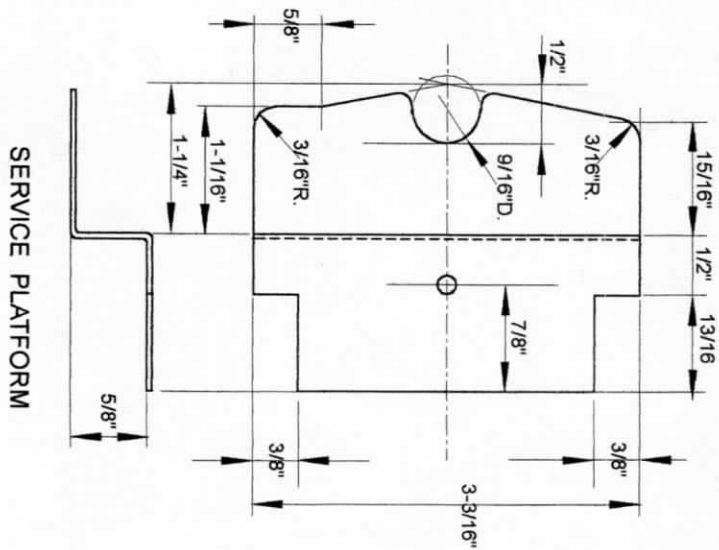

FIGURE 4
STEP 10: Make the service platform. The service platform will give the Engine & Tender a finished, close-coupled appearance when the two are connected for a run. When made to the exact configuration shown, and fastened to the tender floor (see **Figure 2**) the front contour will clear the gas tank, and the head of the screw holding the draw bar loop, and will allow for a 4 foot radius track turn. See **Figure 4** for dimensions and bending profile. Cut a piece of 0.015" brass sheet 3-3/16" wide x 2-15/16" long. The 2-15/16" dimension being the expanded length before shaping and bending. Lightly scribe the two bending lines on the inside of each bend. Cut the Front edge shape and two cut outs on the back end, and drill the 5/32" diameter mounting hole. Bend to the profile shown. Couple the tender to the rear of RUBY and set on a 4 foot radius section of tack. Place the service platform in the position shown in **Figure 2** and move assembly to check that front edge of platform does not interfere with any part of RUBY. When best location is obtained, mark location of a 3/32" diameter tap drill from the mounting hole in platform. Drill mounting hole and insert No. 6 self - tapping screw to form threads. Assemble service platform to the tender floor,